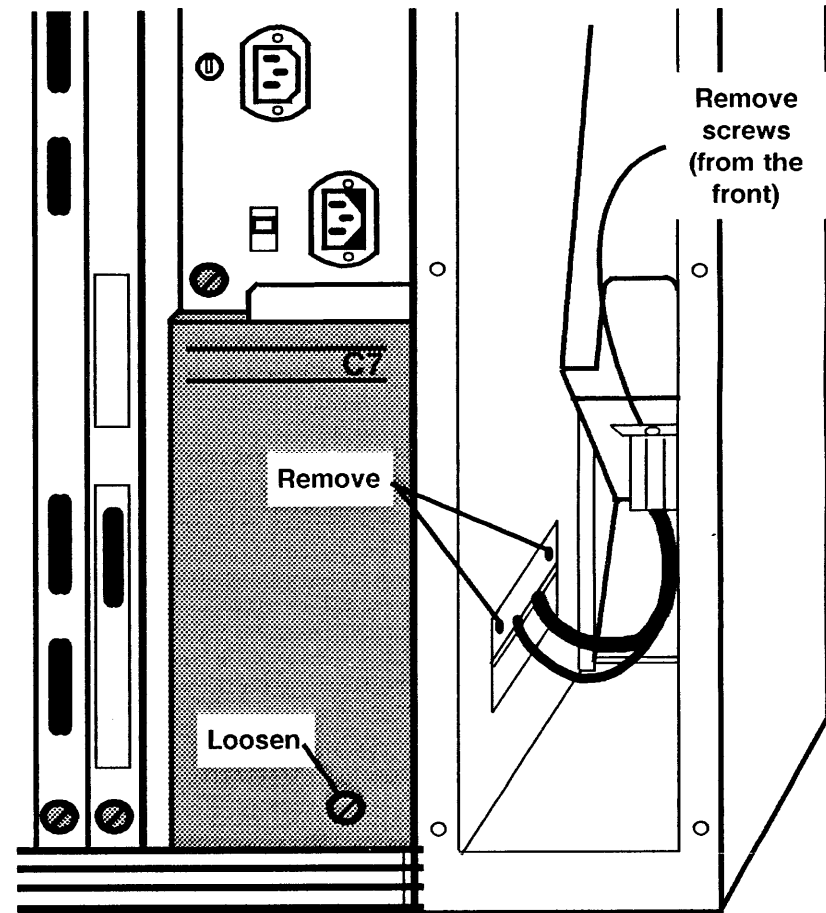

Figure 33. Removable Rigid Drive Cable
7. Remove the two screws that secure the rigid disk drive connector to the bottom of the RRD compartment (Figure 33).
8. Remove the two screws that secure the cable clamp to the inner wall of the C9 cavity (Figure 33).
- a. Loosen the thumbscrew that secures the C7 bracket assembly (Figure 33).